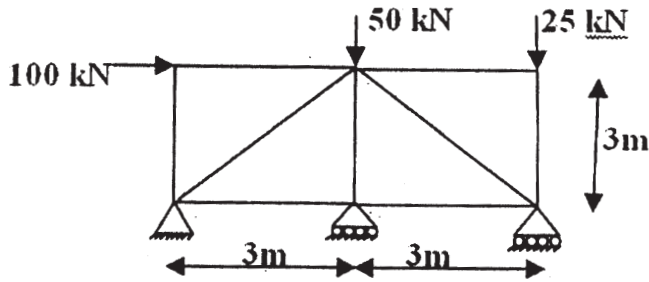

Fig 3
- Q4)** Using **Flexibility Matrix Method**, analyze the truss loaded and supported shown in **Fig. 3**. Determine the forces in the members. [16]